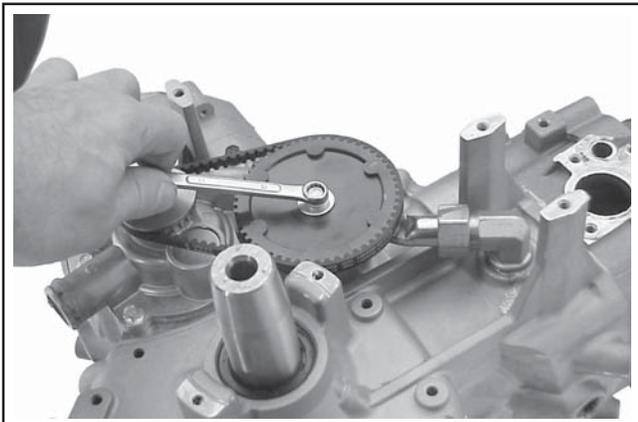

Figure 9-45. Removing Cam Pulley Hardware.
1. Remove the hex flange screw and flat washer, securing the cogged drive pulley to the camshaft. See Figure 9-45.